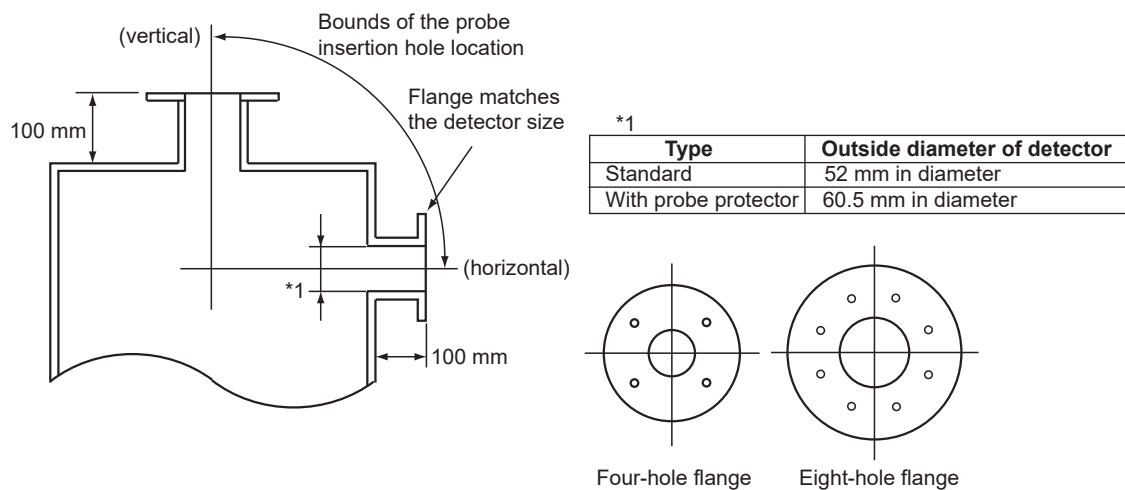

Figure 3.2 Example of forming probe insertion hole
- The outside dimension of detector may vary depending on its options. Use a pipe that is large enough for the detector. Refer to Figure 3.2 for the dimensions.
- (1) Do not mount the probe with the tip higher than the probe base.
- (2) The detector probe should be mounted at right angles to the sample gas flow or the probe tip should point downstream.